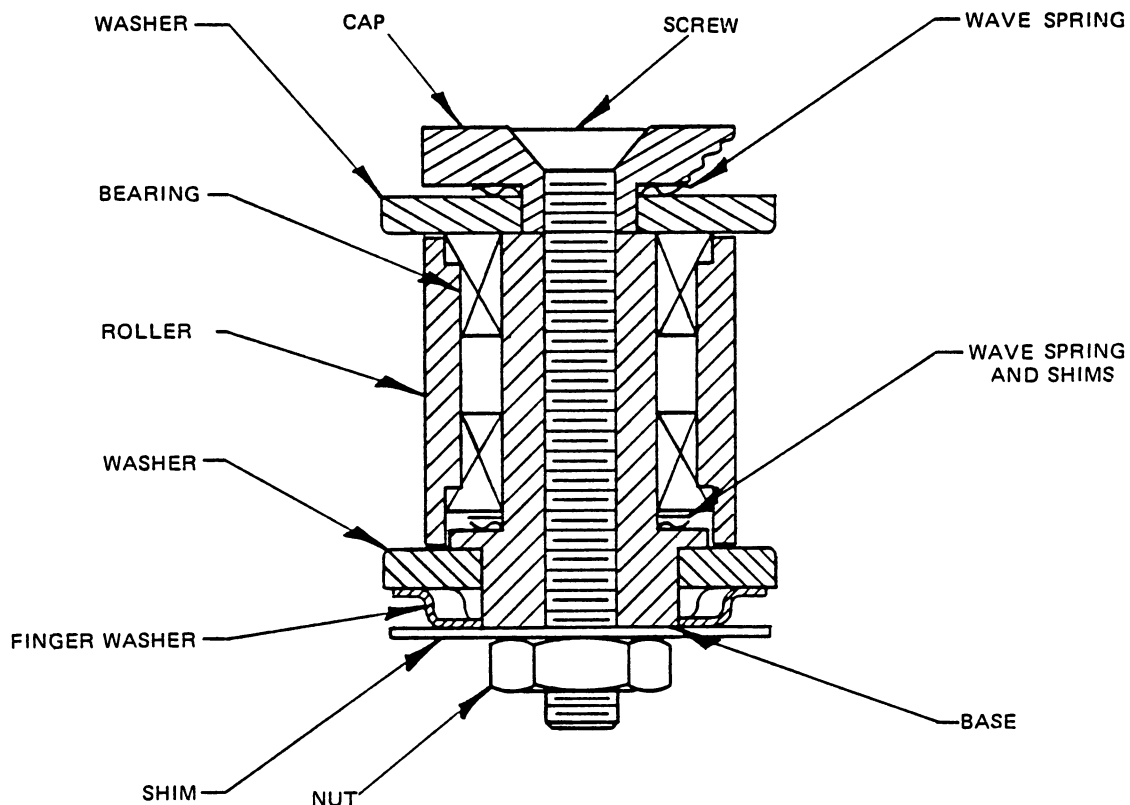

Figure 5-3. Roller Tape Guide
- c. Using new screw provided with replacement roller guide assembly (discard nut and washer), secure roller guide in position. Take care that the springs are properly positioned, as shown in Figure 5-3, before tightening screw.